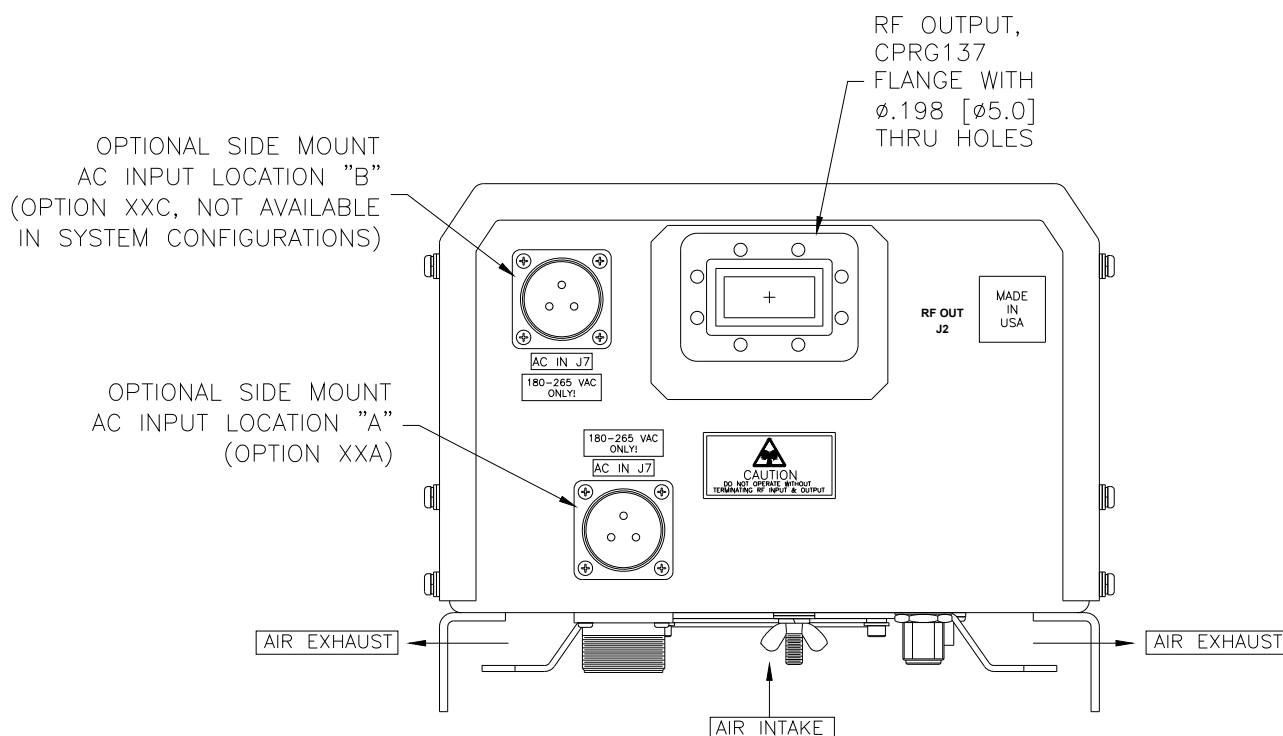

Figure 2-4: RF Output Side of C Band Compact Outdoor SSPA
The AC Input connector, J7, is located on the bottom side of the Compact Outdoor Amplifier package. There are also two alternate placements for this connector on the RF Output end of the amplifier as shown in Figure 2-4. This connector is a 3-pin circular connector, MS3102E20-3P. The mating connector (MS3106E20-3S) is shipped with the unit. The pin out for this connector is given in Table 2-1.
The RF Output is brought out through waveguide in the Compact Outdoor Amplifier. Figure 2-4 shows the output of a C-Band Compact Outdoor Amplifier. The Ku-Band amplifiers have a WR75 grooved flange, while the C-Band and X-Band amplifiers have CPR style grooved flanges (CPRG-137 for C-Band; CPRG-112 for X-Band). Ka-Band amplifiers utilize a WR28 grooved flange. S-Band units are fitted with Type N (F) connectors at the RF Output.
The air intake and exhaust are both located on the bottom side of the amplifier. The intake is brought through three fans while the exhaust is along the two rows of heat sink fins as seen in Figure 2-4. A minimum clearance of 6 inches (152 mm) should be maintained between the fans and any surface during operation. This will ensure that there is no forced re-circulation of airflow from exhaust to intake. **The Compact Outdoor SSPA should NEVER be mounted with the fans facing up.**